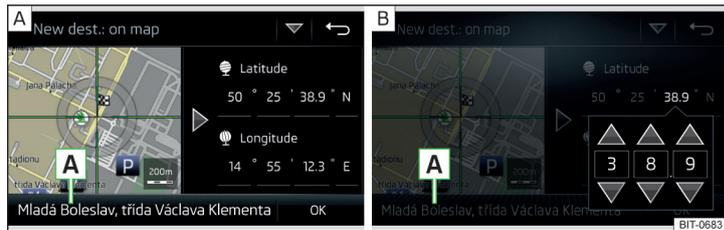

Fig. 202 Enter destination: via the map point / using GPS coordinates
- › By sliding the screen move the desired destination into the cross-hair » Fig. 202 - [A].
- › The function surface with the desired GPS value coordinates for latitude and longitude - » Fig. 202 [B].
If information is available about the point entered in the navigation data, then these will be displayed instead of the GPS coordinates (e.g. address [A] » Fig. 202).